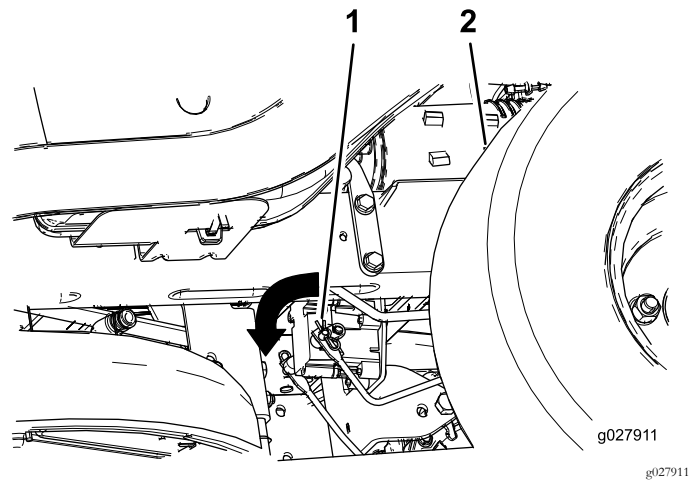

Figure 53
3. Locate the shaft on the electric brake where the brake link arms are connected (Figure 53).